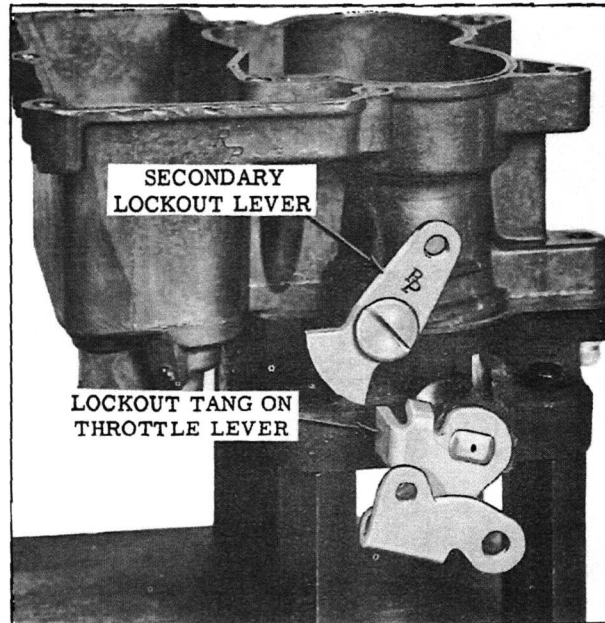

Fig. 27 Secondary Lockout Lever
7. (Front Carburetor Only). Install choke lock-out lever (with RP trade mark facing outward) using attaching screw. (See Fig. 27)